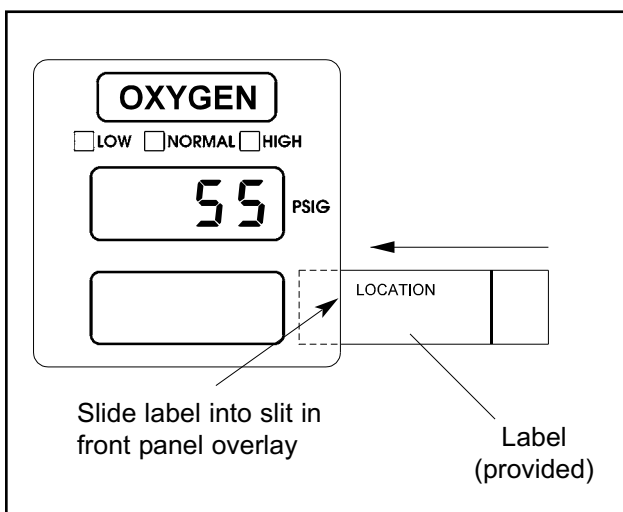

Figure 20: Digital Display Module
4. Blank digital display module location labels are provided so each digital display module may be identified with area/zone that it is monitoring. Insert location labels (if desired) as shown in Figure 20.